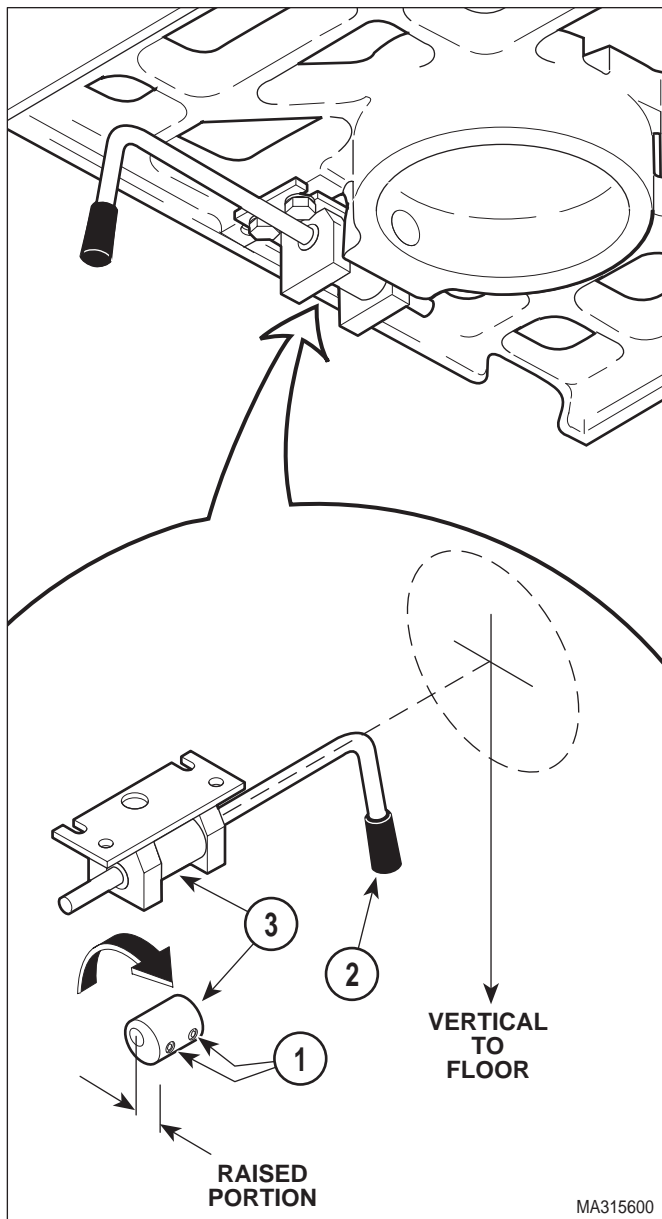

Figure 4-27. Brake Lever Adjustment
- (1) Loosen two setscrews (1, Figure 4-27).
- (2) Rotate brake lever (2) until it is in vertical position.
- (3) Rotate cam stop (3) until raised portion of cam is pointing toward floor.
- (4) Retighten two setscrews (1).